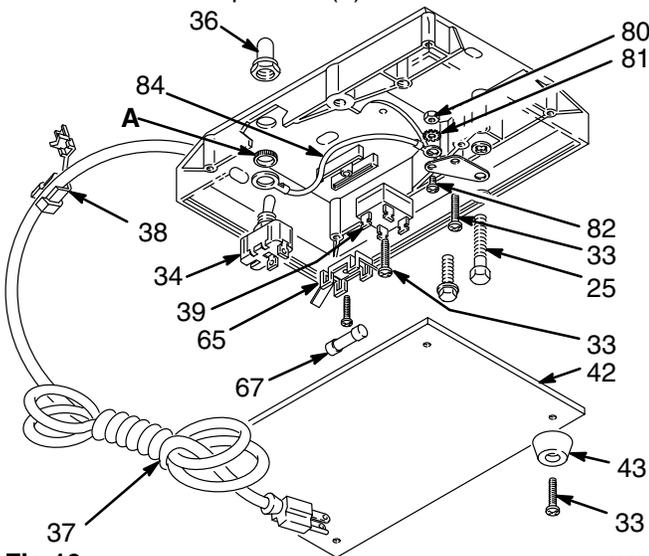

Fig 10
Fuse (See Fig 10.)
ON/OFF Switch (See Fig 10 and 11.)
2. Remove the boot (36) and pull the switch (34) out of the base. Remove the ground wire (84). See Fig 10.
3. Remove the top nut (A) from the new switch. Place the ground wire connector (84) on the switch and re-install the nut. Install the new switch, aligning the tab in the base with the slot in the switch. See Fig 10. Install the boot.
Power Supply Cord (See Fig 10 and 11.)
To maintain grounding continuity in your system, and to reduce the risk of electric shock, check to be sure the ground wires are properly connected. The power supply cord's green ground wire connects to the screw (82), and the ground wire (84) connects between the ON/OFF switch and the screw (82). Also be sure the screws (25 and 33) are tightly screwed into the base. See Fig 10 and 11.